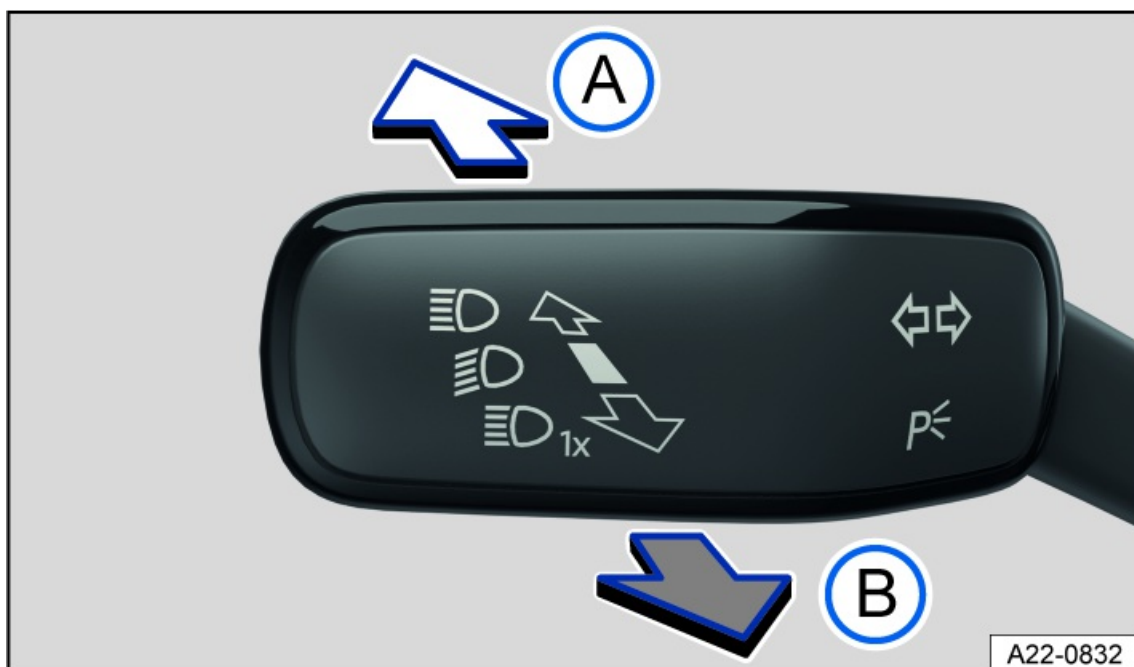

Fig. 103 On the left side of the steering column: turn signal and high beam lever.
3. Tap the lever forwards out of the basic position *fig. 103*.
- *Increase sensitivity:* push the lever forwards out of the starting position and hold it in place for approx. 15 seconds *fig. 103*.
- *Reset sensitivity to standard setting:* push the lever forwards out of the starting position and hold it in place for approx. 15 seconds *fig. 103*.
Or: if high beam control (Light Assist) is switched on and active, pull the lever backwards *fig. 103*.
Or: if high beam control (Light Assist) is switched on and is not active, press the lever forwards *fig. 103*. The manual high beam headlights are now switched on. To switch off the manual high beam if necessary, pull the lever backwards ⓘ B.